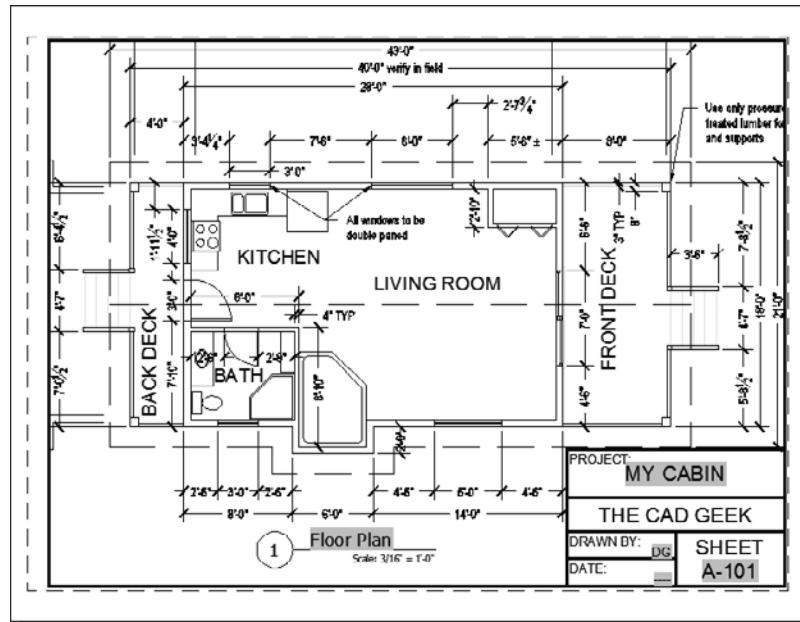

FIGURE 15.30 The cabin drawing ready for printing from a layout
1. With A-100.dwg open, switch to the A-101 layout using the Quick View Layouts tool. For a review of layouts and viewports, see Chapter 14. Your layout should look like Figure 15.30.